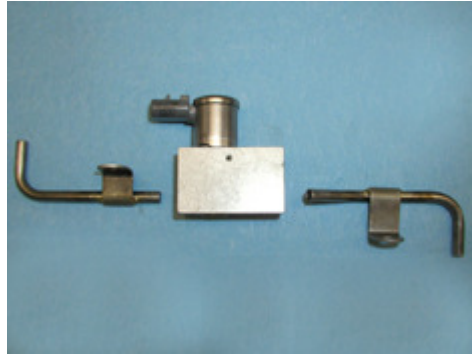

Figure 10: Solenoid block
13) Place the two modified tubes into the new solenoid block provided; use the valve body for assistance when aligning the tubes to the block (Figure 10).